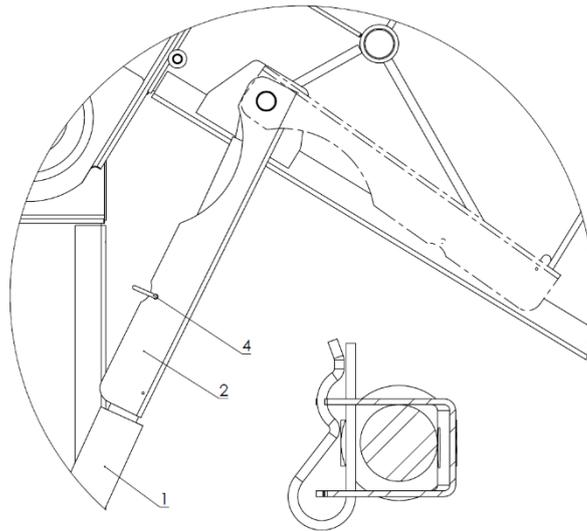

Figure 10. Locks for securing the cylinders
Secure the lifted baler cover in its upper position, as shown in Fig. 10. On both sides of the baler, use clamps (2) fixed to the upper pins of the hydraulic cylinders (1) to secure them. Move the clamps (2) fully upwards so, that they embrace the stretched cylinder rods. Lock them with locking pins (4) against unauthorised cover closing. Unlock the clamps of the cover after completing the planned activities.